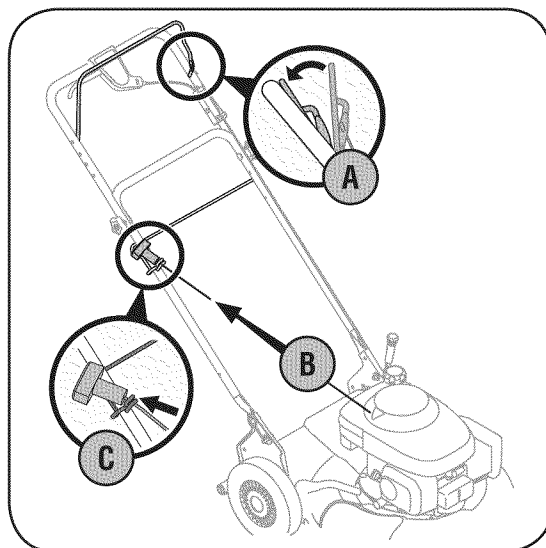

Figure 3-3: Pull recoil starter through rope guide.
3. The rope guide, which is connected to the support rod, is located on the right side of the lower handle, Figure 3-3.